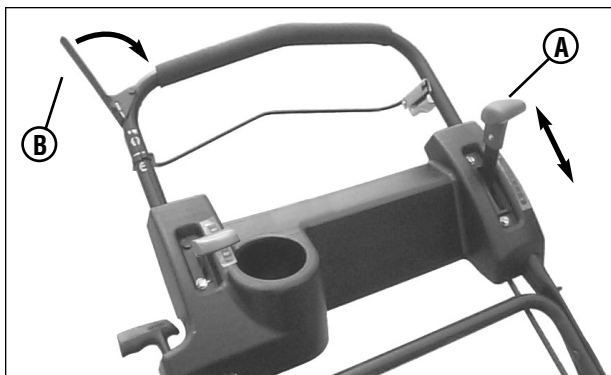

Figure 5: Mower drive controls
2. Move the ground speed control (A, Figure 5) to the desired speed position.
3. Squeeze the wheel drive control (B) against the handle to engage the wheel drive and propel the mower forward. Forward speed can be adjusted while the mower is moving by changing the position of the ground speed control.